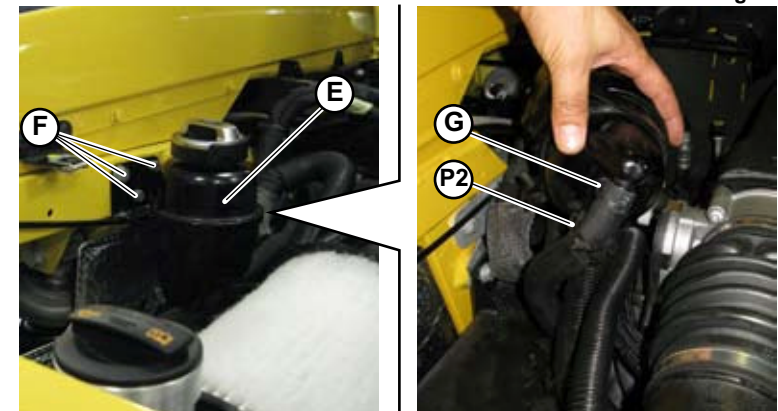

Fig.26
5. Loosen the 3 screws (F-Fig.26) to release the power steering tank (E-Fig.26) and loosen the clamp (G-Fig.26) to disconnect the rear part of the P2 return pipe.